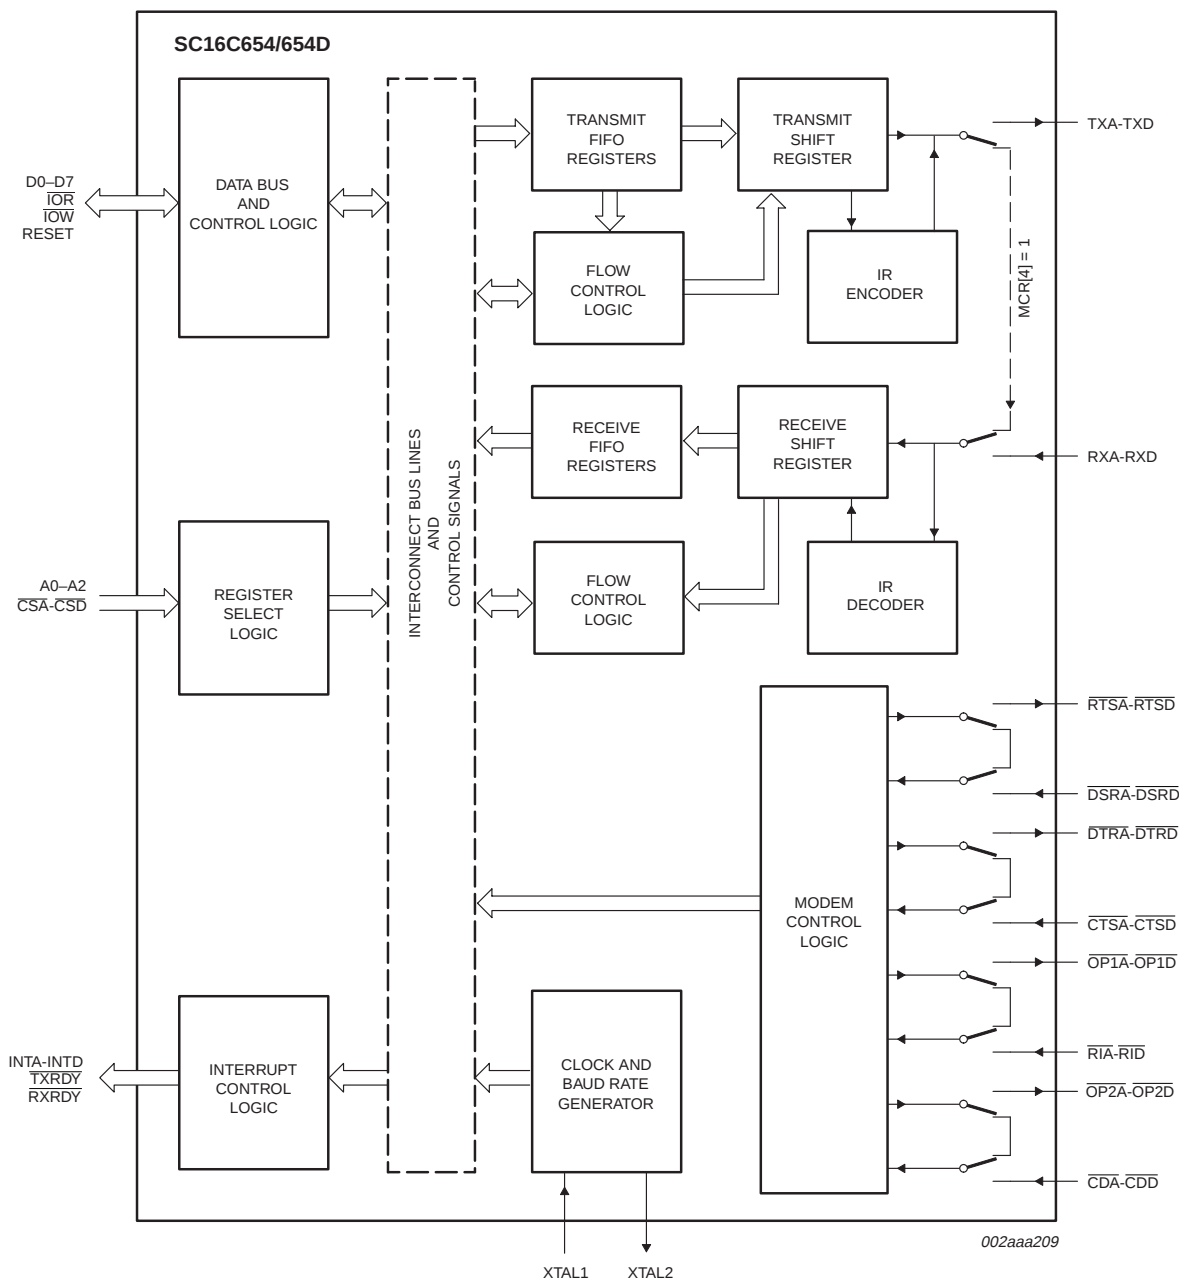

Fig 8. Internal loop-back mode diagram.
The internal loop-back capability allows on-board diagnostics. In the loop-back mode, the normal modem interface pins are disconnected and reconfigured for loop-back internally. MCR[0-3] register bits are used for controlling loop-back diagnostic testing. In the loop-back mode, OP1 and OP2 in the MCR register (bits 2-3) control the modem $\overline{RI}$ and $\overline{CD}$ inputs, respectively. MCR signals $\overline{DTR}$ and $\overline{RTS}$ (bits 0-1) are used to control the modem $\overline{CTS}$ and $\overline{DSR}$ inputs, respectively. The transmitter output (TX) and the receiver input (RX) are disconnected from their associated interface pins, and instead are connected together internally (see Figure 8). The $\overline{CTS}$, $\overline{DSR}$, $\overline{CD}$, and $\overline{RI}$ are disconnected from their normal modem control input pins, and instead are connected internally to $\overline{DTR}$, $\overline{RTS}$, $\overline{OP1}$ and $\overline{OP2}$. Loop-back test data is entered into the transmit holding register via the user data bus interface, D0-D7. The transmit UART serializes the data and passes the serial data to the receive UART via the internal loop-back connection. The receive UART converts the serial data back into parallel data that is then made available at the user data interface D0-D7. The user optionally compares the received data to the initial transmitted data for verifying error-free operation of the UART TX/RX circuits.